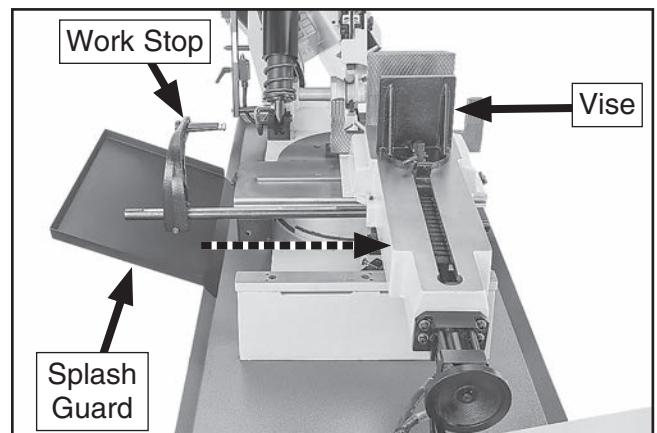

Figure 44. Vise positioned to right.
5. Pull vise all the way to opposite side of base and tighten vise locks (see Figure 44).
6. Re-install splash guard and work stop on side of vise base opposite of vise, as shown in Figure 44.